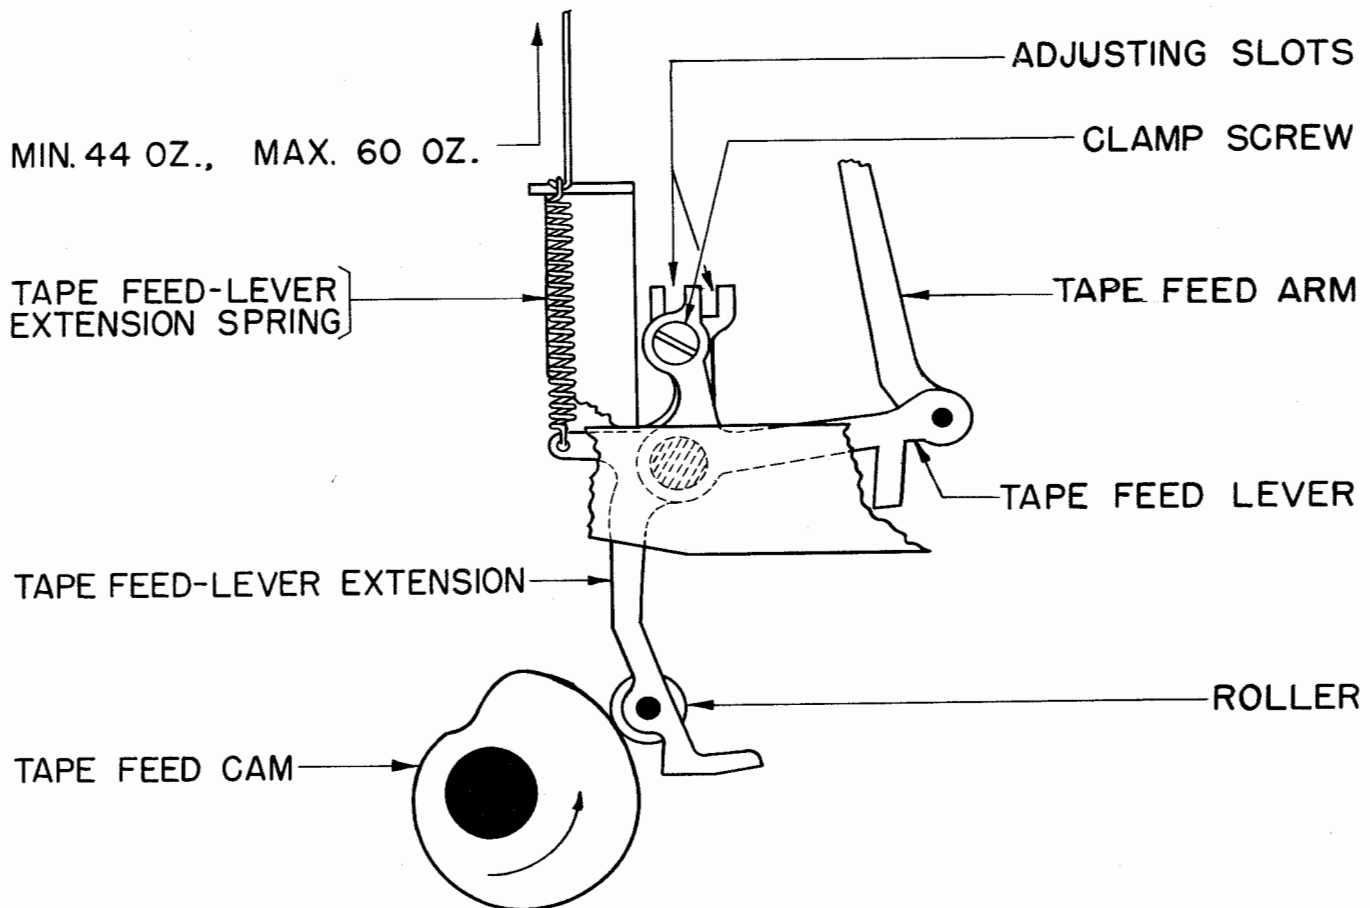

Figure 55
2.114 Tape-feed Lever: The tape-feed-pin oscillator shall start moving to the left immediately after the tape-pin feed-lever-extension roller starts to ride from the high to the low part of its cam. See Figure 55.
2.115 Tape-feed-lever-extension Spring: It shall require a pull as indicated in Figure 55 to extend the spring to position length with the sensing-cam sleeve in its stop position and the tape-feed-lever-extension cam-roller resting on its cam.